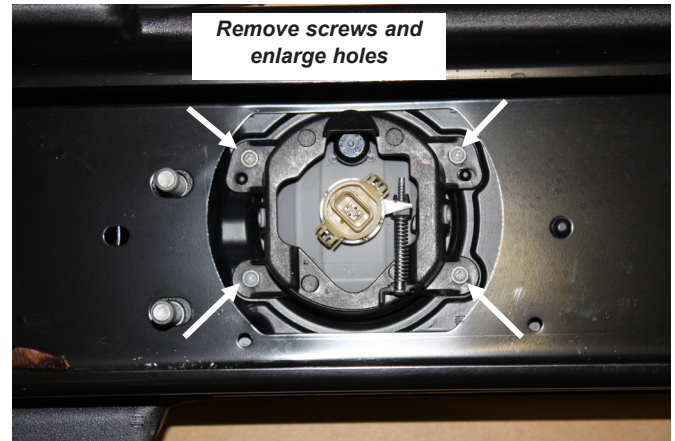

Figure 19
21. Attach the fog lamps to the Fog Lamp Brackets using the 1/4-20 x 1" capscrews, flat washers and lock nuts. Make sure the fog lamp vents are on top. Figure 19.
23. Install the fog lamps and Brackets. Use 7/16 x 1-1/2" capscrews, flat washers, lock washers and nuts. Adjust lamps and tighten. Figure 19.